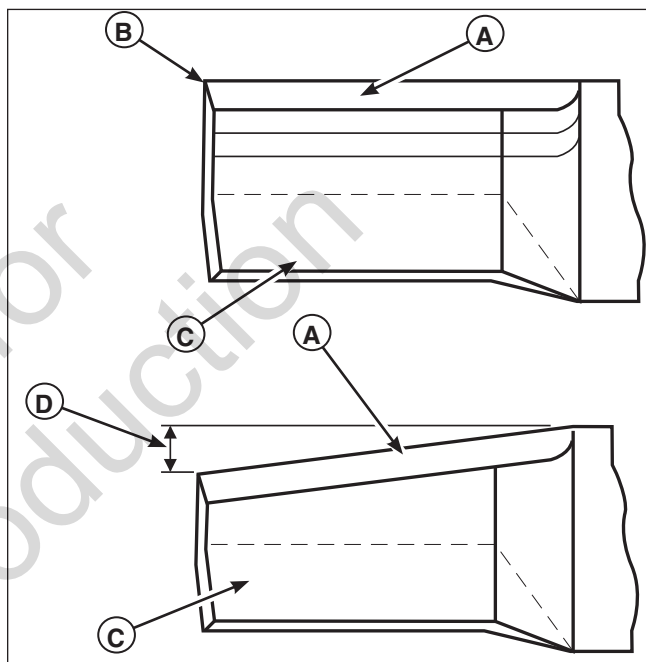

Figure 19. Inspecting the Mower Blade Tips
2. Inspect the mower blade (Figures 19 & 20). Discard the mower blade if it has any of the below conditions.
- A.) Has more than .5" (12,7 mm) of the mower blade metal removed from previous sharpening or wear (D, Figure 19).